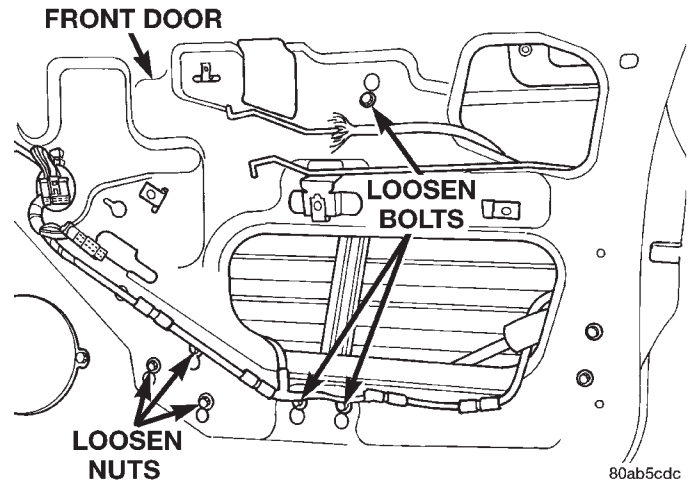
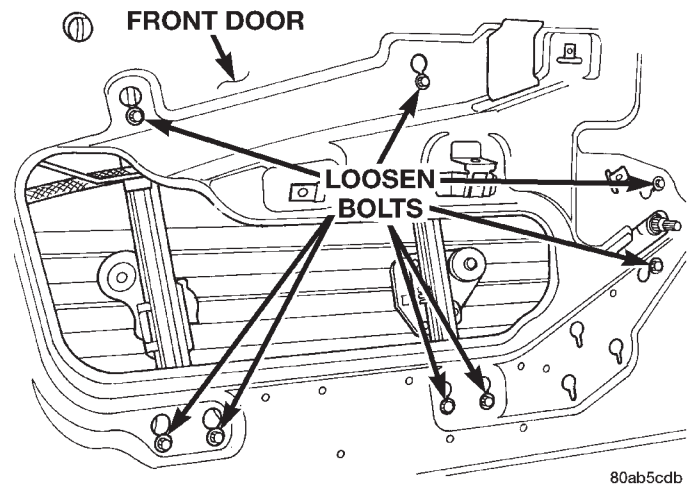

Fig. 37 Power Window Regulator
Fig. 38 Manual Window Regulator
- (1) Remove the door trim panel.
- (2) Remove the waterdam.
- (3) Remove the window glass.
- (4) Loosen the bolts attaching the regulator to the inner door panel (Fig. 37) and (Fig. 38) as applicable.
- (5) Lift the regulator upward to release it from the key hole slots and remove it through the access hole in the door inner panel.